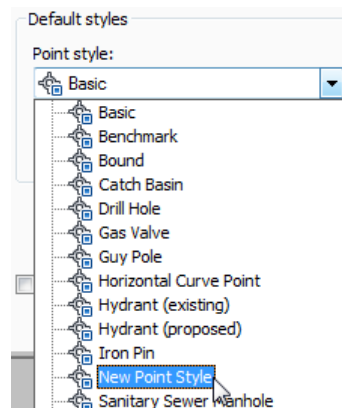

*Figure 2-62 Partial view of the **Text Component Editor - Contents** dialog box showing the northing label text*
- Choose the button next to the **Properties** drop-down list; the selected property is added to the **Text Editor** window available on the right pane of the **Text Component Editor - Contents** dialog box, refer to Figure 2-62.